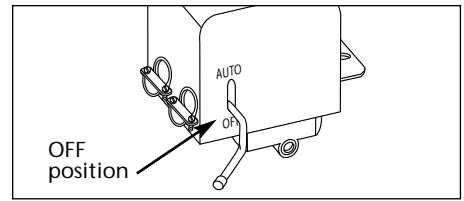

Figure 6
- Turn switch to OFF position and plug in power cord (Fig. 6).